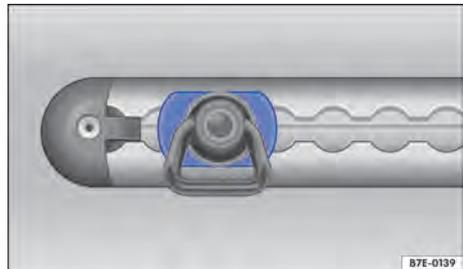

Fig. 137 In the luggage compartment: Fastening rail with fastening ring (illustration).
4. Please ensure that the fastening ring has engaged securely. The sides of the fastening ring must be horizontal → Fig. 137.